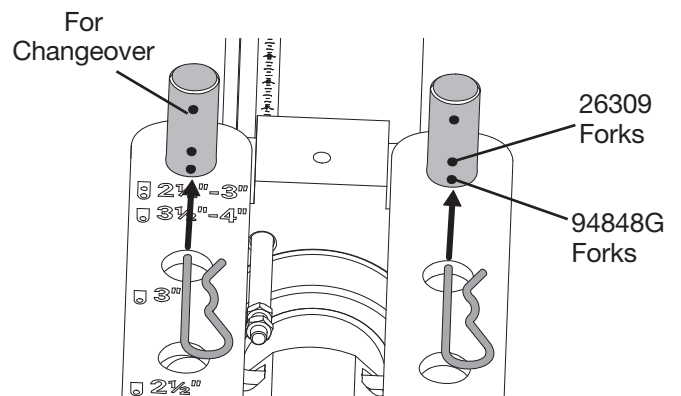

Figure 7
9. While keeping the hitch pin head tight against the connecting fork face, insert the clip in the hole closest to the opposite connecting fork face. Repeat for second pin. (Fig. 7)
For changeover to other shoe groups, remove cylinder block hitch pin clips, as necessary, and insert into outermost hole of hitch pin (Fig. 7). Lift connecting fork enough to allow the follow bar through.